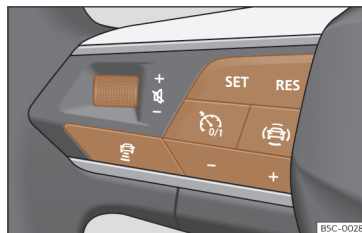

Fig. 159 On the multifunction steering wheel: buttons to operate the ACC
Your vehicle has ACC if it has a configuration menu in the infotainment system >>> page 89 and if it has the ACC function buttons on the multifunction steering wheel >>> **Fig. 159**.
- To start regulation, press the button **SET** >>> Fig. 159.
To program the speed, press the + or - >>> **Fig. 159** buttons to the desired speed. The speed is adjusted at intervals of 10 km/h (5 mph).
- Press the button  and then the button + or - >>> **Fig. 159**.